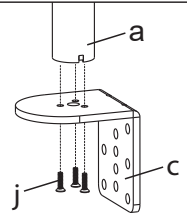

Figure 1
1. Install the "C" -Clamp Brace (c) to the Pole (a) using 3pcs M5x14 Bolts (j), and tighten using the Allen Key (y), see Figure 1.